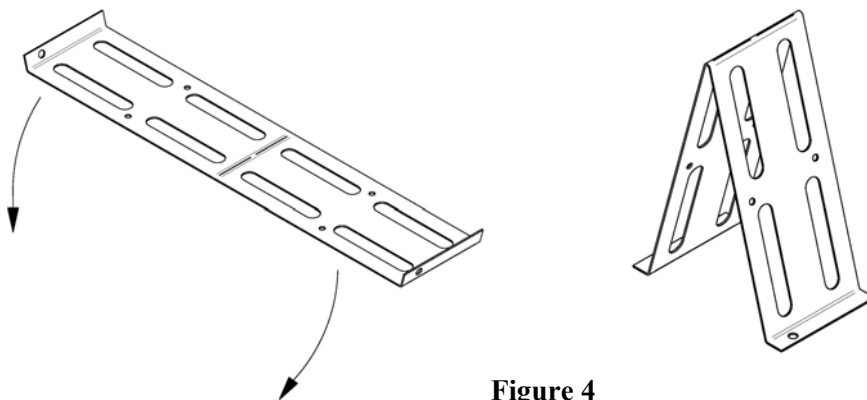

Figure 4
1. Fold by hand the 2 spacers like illustrated in Figure 4.